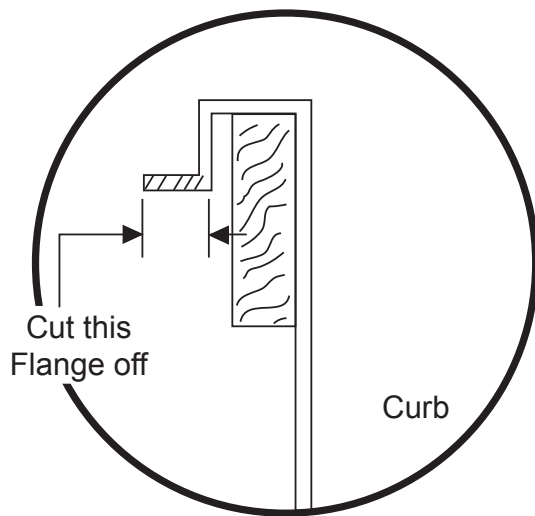

FIG. 8 - Flange Removal
1. With a sawzall or other type of cutting device, cut the horizontal angle off the CPRFCURB008A00 or CPRFCURB009A00, roofcurb. See figs. 8 and 9. Use care not to damage roofing materials when cutting.